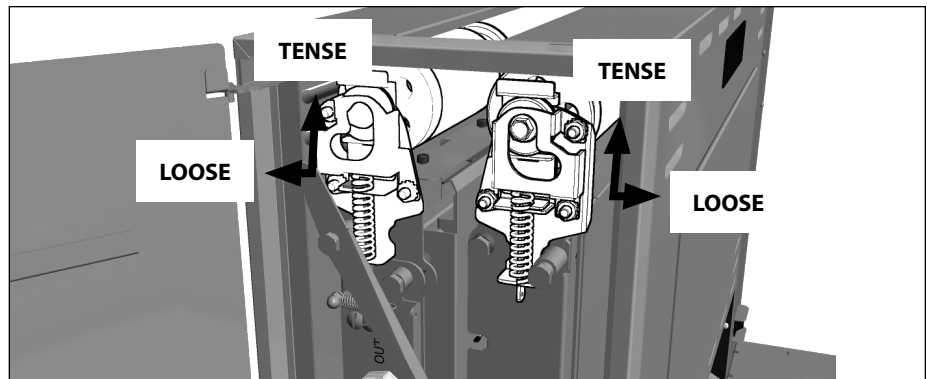

Figure 11. Conveyor Rollers
6. To lock the front Conveyor Roller, face the front of the toaster. Use both hands and push down on the Front Conveyor Roller and pull towards you. This removes tension and locks the roller in place (Figure 11).
7. To lock the Rear Roller, face the rear of the toaster. Use both hands and push down on the Rear Conveyor Roller and pull towards you. This removes tension and locks the roller in place (Figure 11).